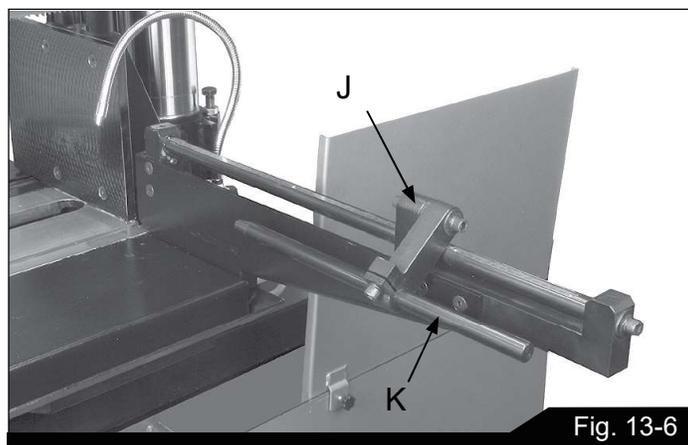

Fig. 13-6
Position the stop block (J, Fig. 13-6), and adjust the rod (K) the desired distance away from the blade. Securely tighten the handle on the stop block, and the screw on the rod holder.